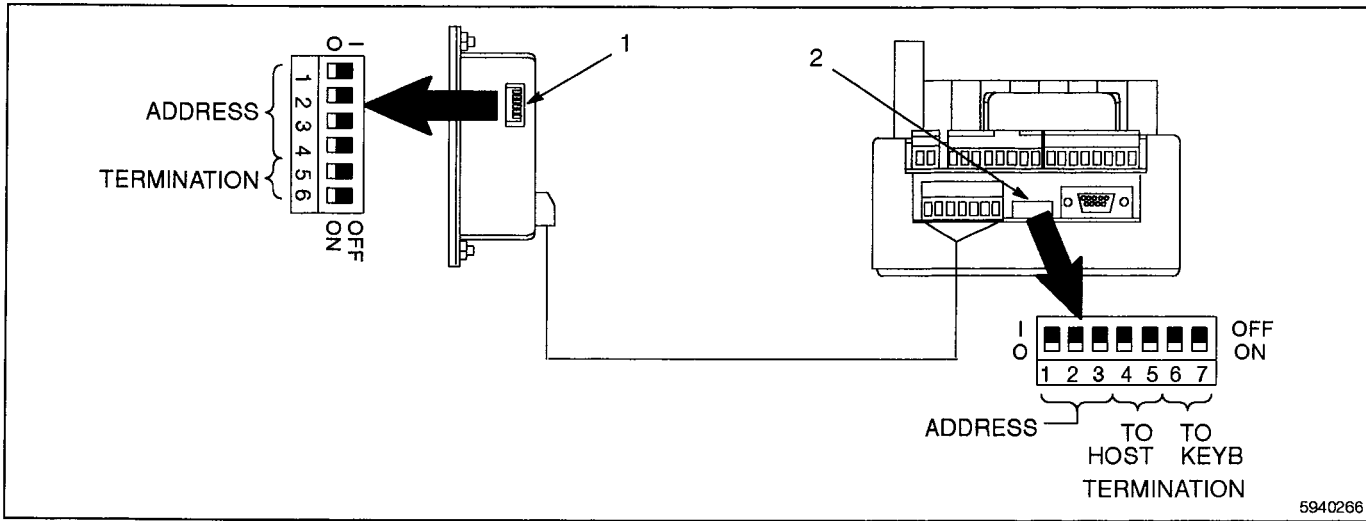

Fig. 3-26 Keypad and Controller DIP Switch Settings
Two sets of termination switches are included on the controller. One set establishes the termination value for an RS-485 network connecting the controller to a PLC or other system host. It does not apply to an RS-232 network. The other termination switches apply to the keypad network. See Figure 3-26 for controller and keypad DIP switch settings.
The address and termination settings on the keypad DIP switch apply to the RS-485 network that connects it to the controller. See Figure 3-26 for DIP switch settings.
5. Verify the keypad DIP switch is set to address 0 and termination ON, as shown in Figure 3-26.